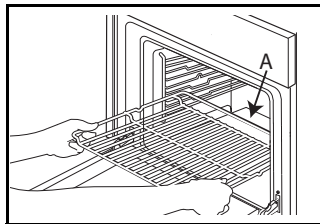

Fig. 1
12. Insert the wire shelf horizontally, with the raised part "A" upwards (Fig. 1).